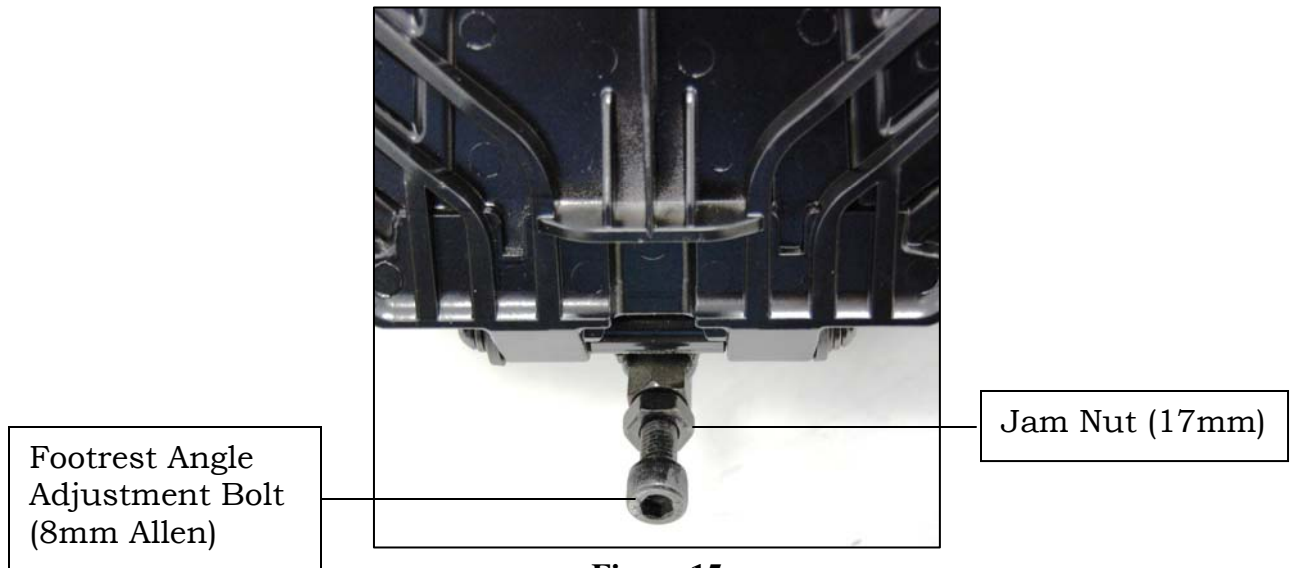

Figure 15
1. Fold the footrest upward for easy access to the angle adjustment bolt. See figure 15.